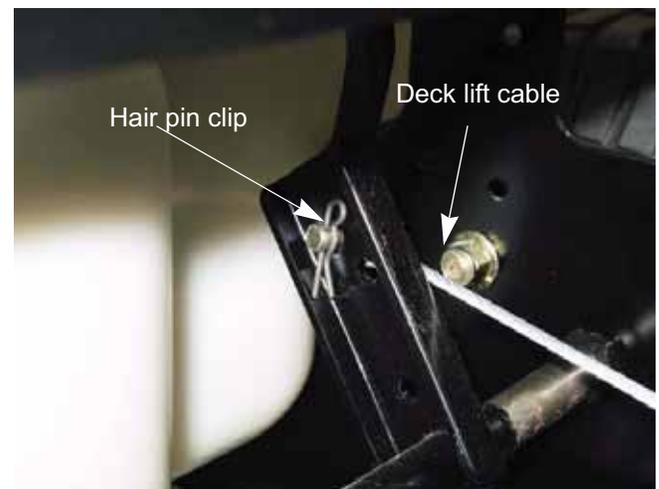

Figure 2.8
3. Remove the hair pin clips retaining the deck lift cables and disconnect the cables. See Figure 2.8.